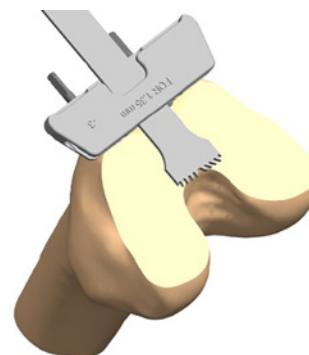

Figure 10
3. Resect the distal femur (Figure 10) then remove the Distal Femoral Cutting Block.